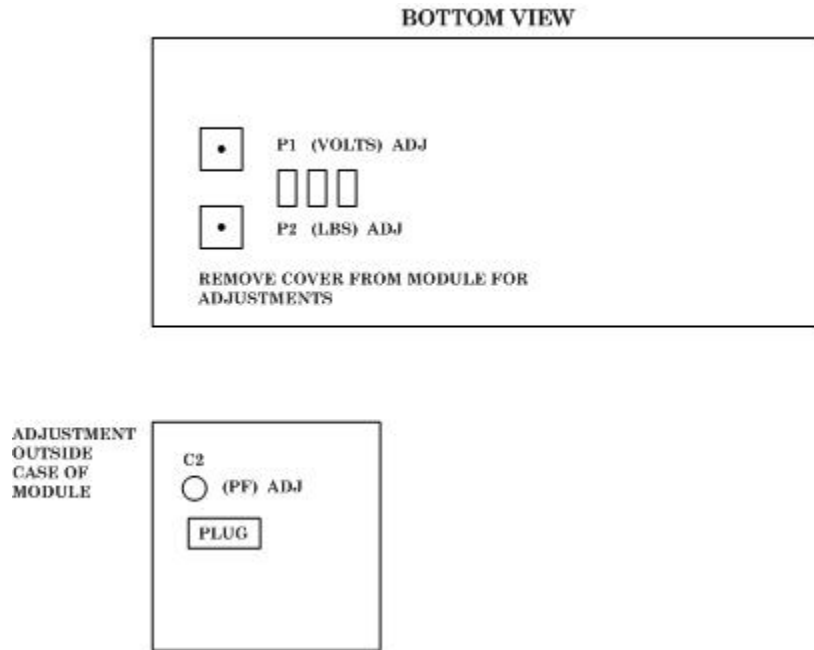

Figure 6. Adapter module monitor (LBS), (VOLTS) and (PF) adjustments.
- (1) Remove TI adapter module case for access to P2 adjustment.
- (2) Adjust P2 on adapter module printed circuit board, (fig. 6), for a display of 1534 lbs on TI digital indicator.
(1) Remove TI adapter module case for access to P1 adjustment if not previously removed in paragraph **13 b**.
(2) Adjust P1 on adapter module printed circuit board (fig. 6) for a display of 19.90 Vdc on digital indicator.
- (3) TI digital indicator will indicate value of capacitor standard/adapter box within $\pm 0.3\text{pf}$. If not, perform **b** below.
- (4) Set **200(pF)-1000(pF)** switch to **1000(pF)**.
- (5) Depress and hold **PRESS TO READ CAP(pF)** pushbutton.
- (6) TI digital indicator will indicate value of capacitor standard/adapter box within $\pm 2.0\text{pf}$.
- (7) Set TI power switch to **OFF**.
- (8) Disconnect capacitor standard/adapter box leads from TI bench test probe receptacle.
- b. Adjustments.** Adjust capacitor C2 on adapter module circuit board, (fig. 6), for (pf) value of capacitor standard/adapter box on TI digital indicator.